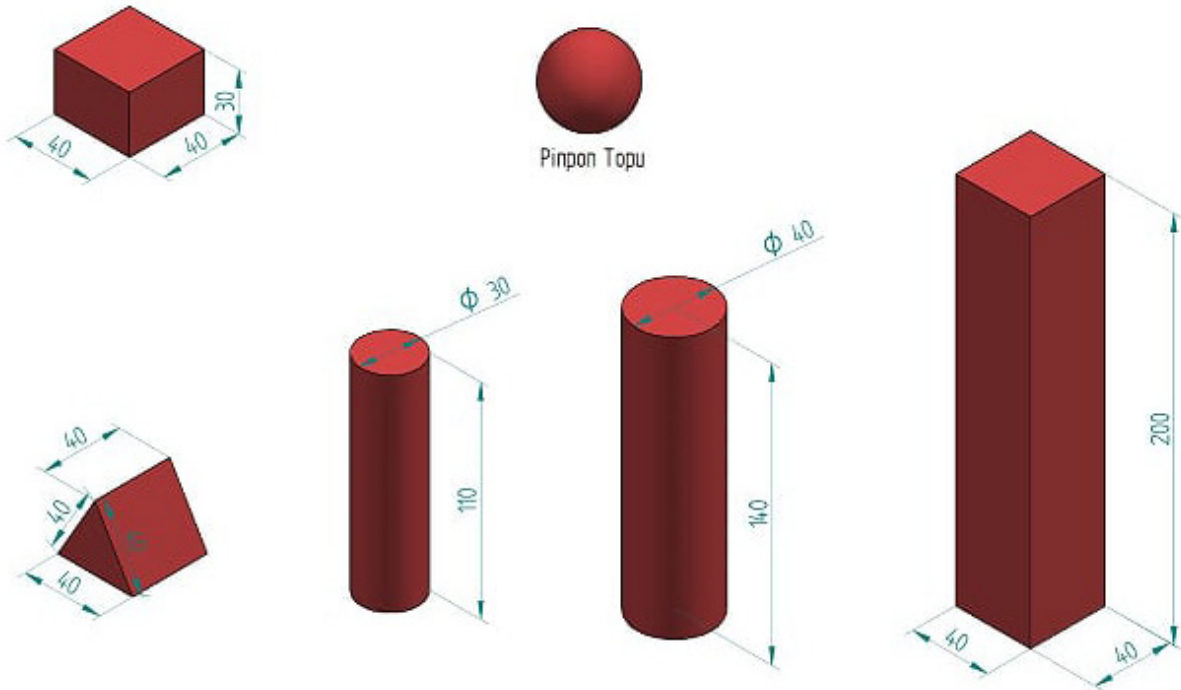

Figure 6- Objects
6. There are 6 different objects to be placed on the platform. Dimensions are shown at figure 6.